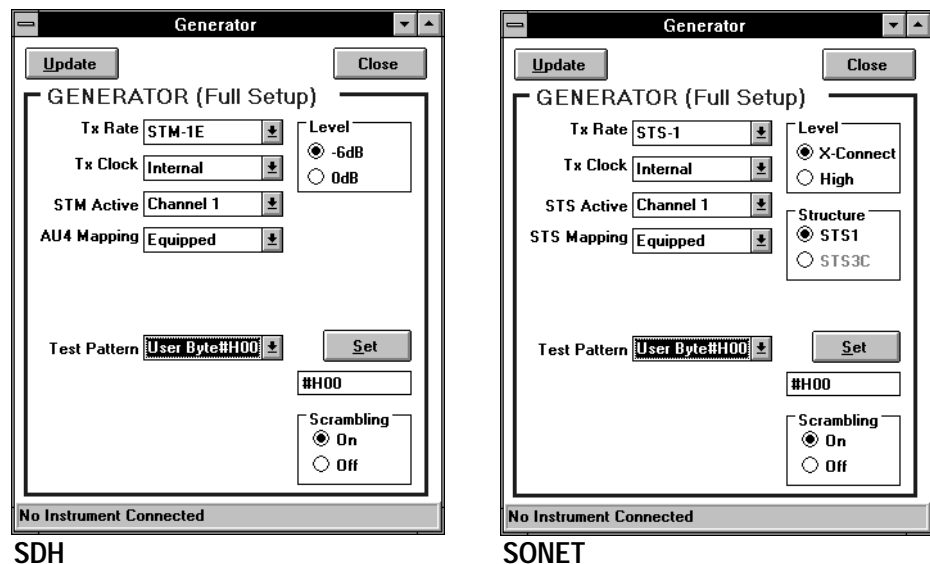

Figure 3–13: Setting a repeating byte test pattern
- b. When the text box appears as shown in Figure 3–13, remove the two digits 00 in the text box.